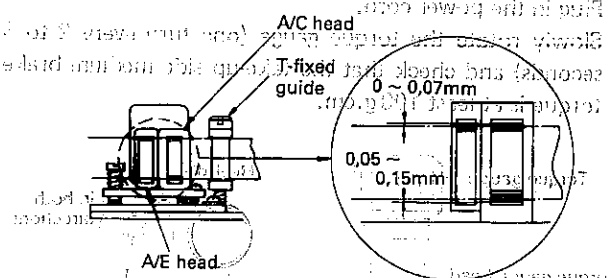

Figure 26.
2. After adjustment is complete, always adjust the tape travel, and adjust the T and S guide rollers before carrying out the checks in figure 26.
3. Check that the AC head has a height and tilt with regard to the tape as shown in Fig. 26.